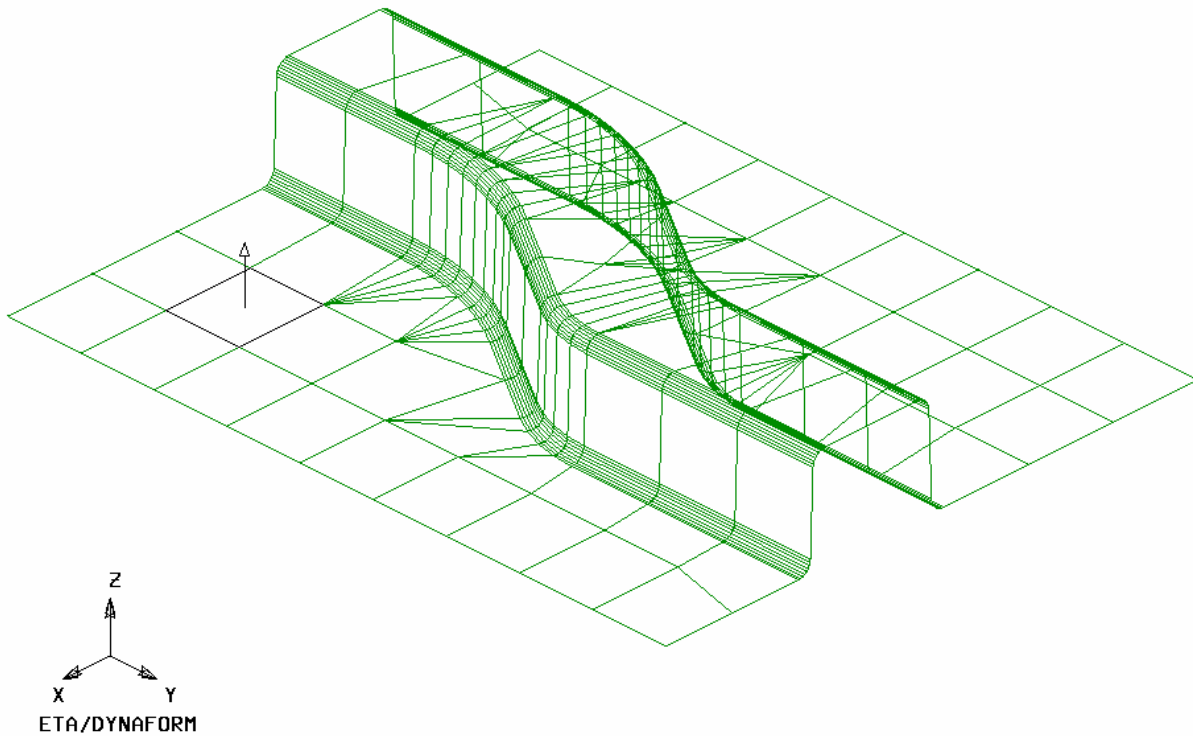

Figure 33: Reference element for normal direction of elements
2. The displayed dialog prompts you to pick an element to check all the active parts or an individual part for element normal consistency. Select an element on the part **LOWTOOL**, as highlighted in Figure 33.